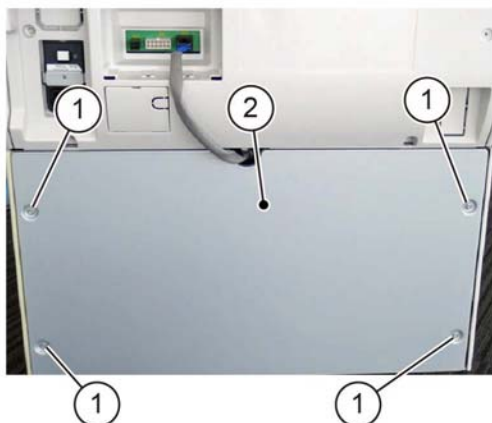

Figure 1 Rear cover removal
1. Remove the rear cover, **Figure 1**:
- a. Remove four screws (1).
- b. Remove the rear cover (2).